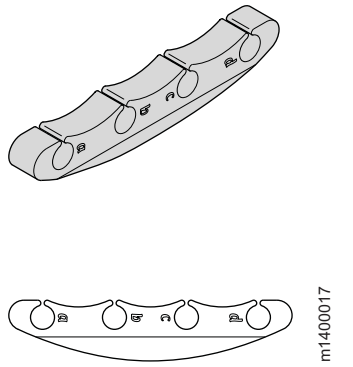

Figure 35. Cable guides (pillars)
- A set of 16 cable guides (see Figure 35 on page 52) are provided with the M14, and can be used to organize the port cables into logical groups. The cable guides do not attach to the chassis.
Use the cable guides (pillars) (see Figure 35 on page 52) to organize the port cables into logical groups, such as according to port quads (sets of four neighboring ports). The cable pillars do not attach to the chassis.
To use the cable pillars, orient them horizontally and insert the cables into the holes, using a separate hole for each cable. See Figure 35 on page 52.